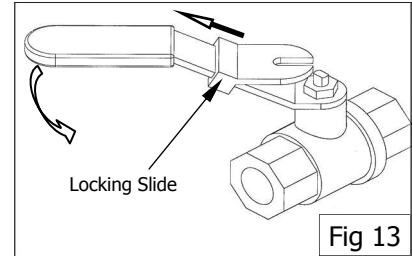

Fig 13
- b. While holding locking slide in withdrawn position, rotate handle anticlockwise (Fig 13) to open valve.